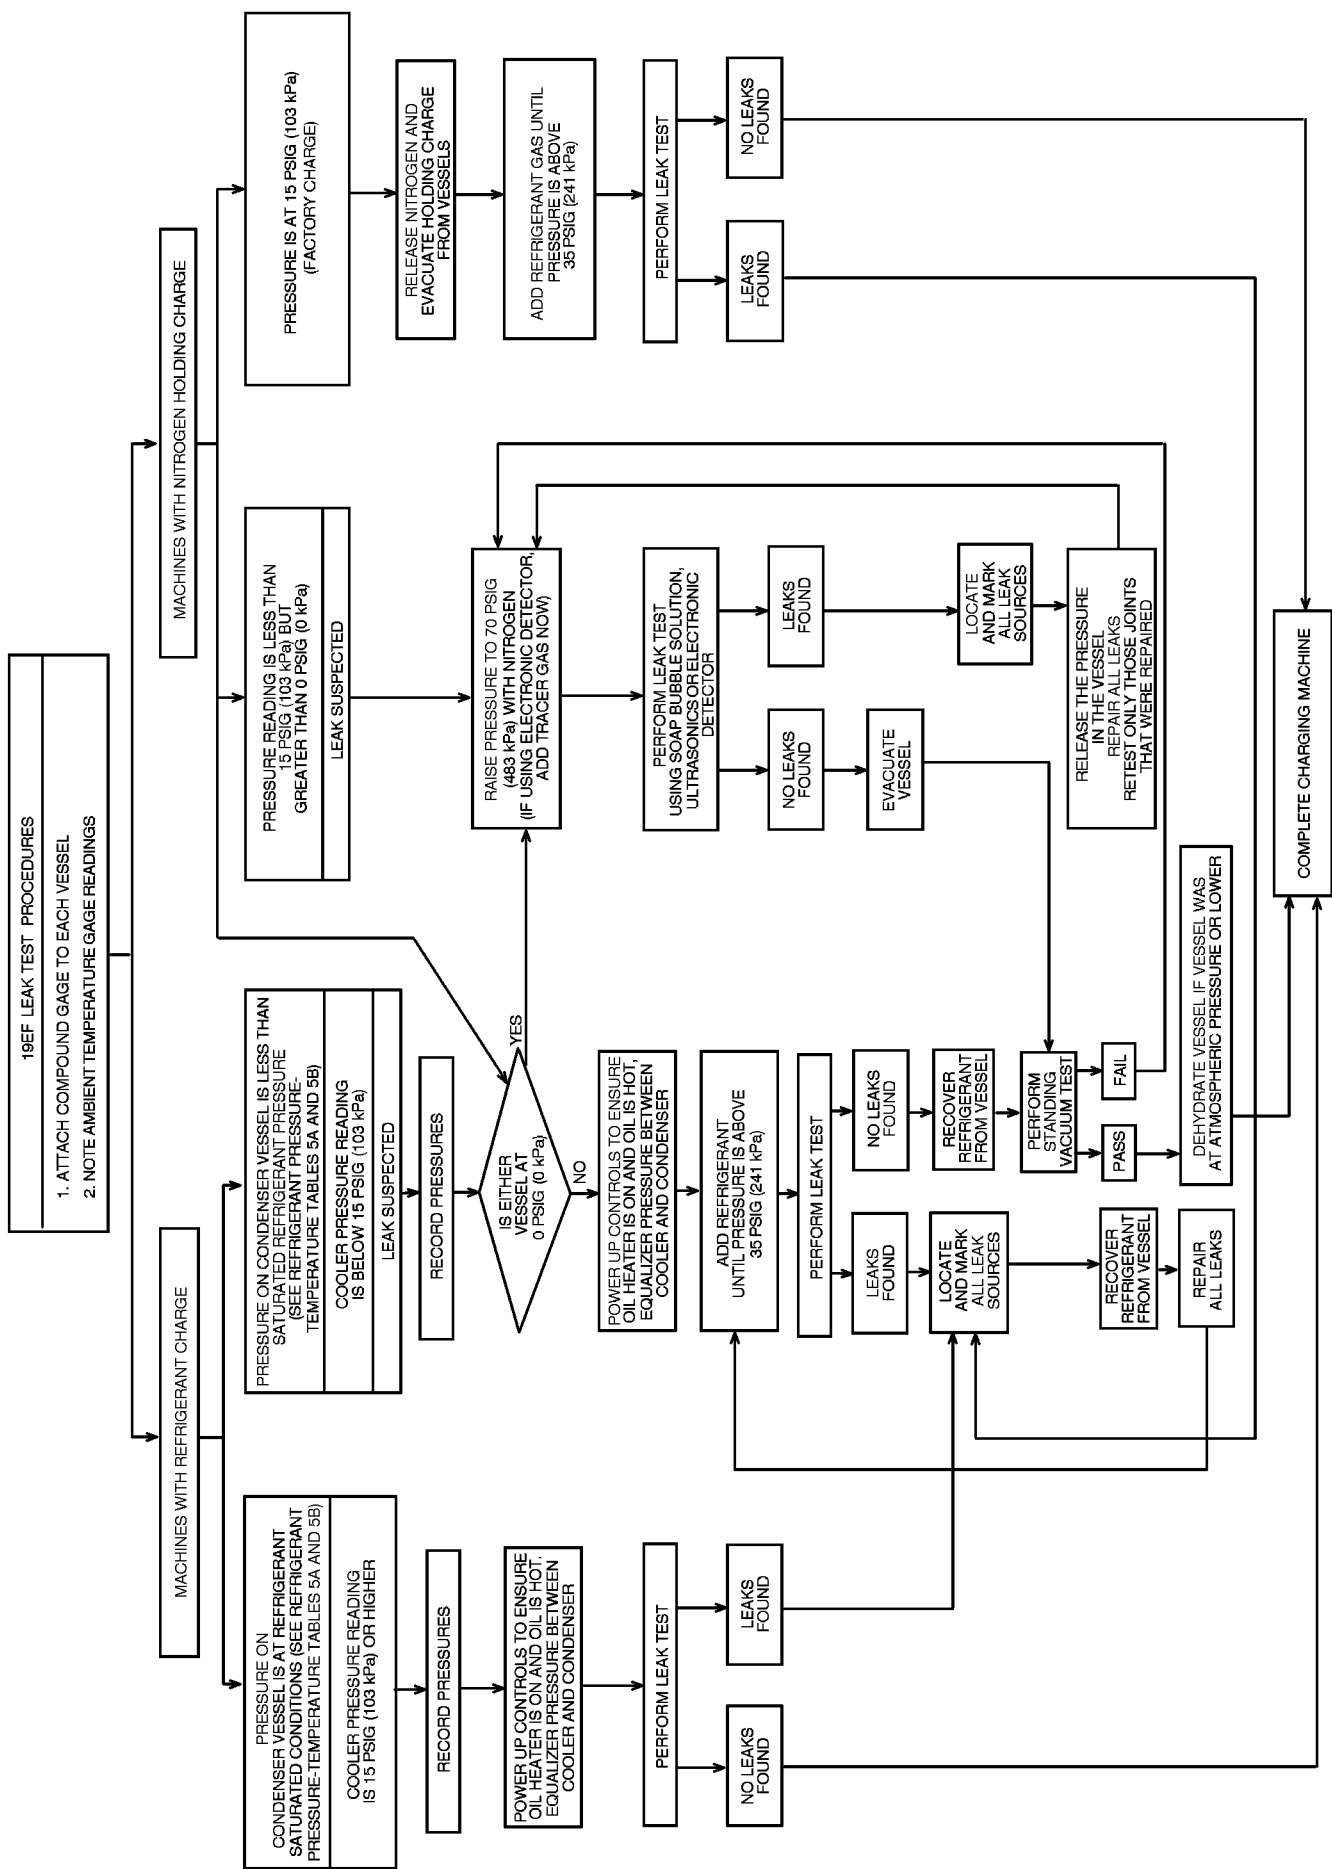

Fig. 24 — 19EF Leak Test Procedures
Check Machine Tightness — Figure 24 outlines the proper sequence and procedures for leak testing.
Leak Test Machine — Due to regulations regarding refrigerant emissions and the difficulties associated with separating contaminants from refrigerant, Carrier recommends the following leak test procedures. See Fig. 24 for an outline of the leak test procedures. See Table 5A and 5B for refrigerant pressure/temperature values.
- b. If the leakage rate exceeds 0.05 in. Hg (.17 kPa) in 24 hours, repressurize the vessel and test for leaks. Refer the leak test procedures in Fig. 24. Raise the vessel pressure in increments until the leak is detected. If refrigerant is used, the maximum gas pressure is approximately 70 psig (483 kPa) at normal ambient temperature. If nitrogen is used, limit the leak test pressure to 230 psig (1585 kPa) maximum.